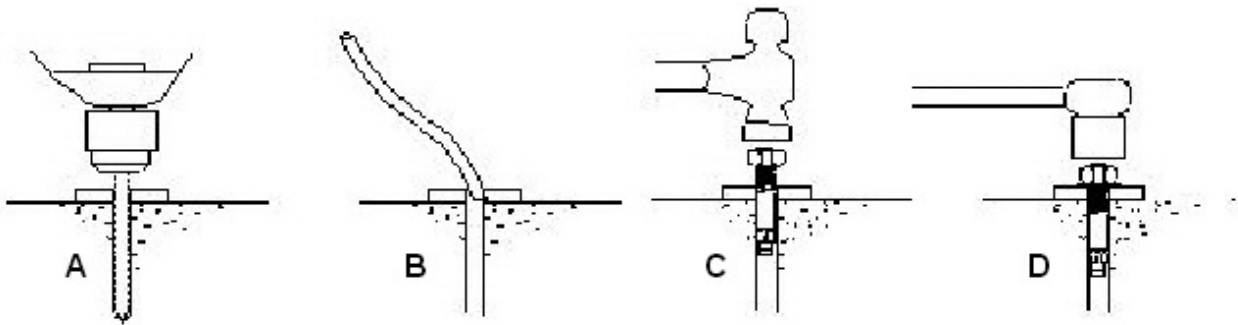

Figure 2-4. Anchor Hole Drilling and Seating
- For better holding power blow dust from the hole (.Refer to figure 2-4 Detail B).
STEP 7: Place a flat washer and hex nut over threaded end of anchor, leaving approximately 1/2 inch of thread exposed and carefully tap anchor (Refer to figure 2-4 Detail C). Do not damage threads.
STEP 8: Tap anchor into the concrete until nut and flat washer are against base plate. Do not use an impact wrench to tighten (Refer to figure 2-4 Detail D).